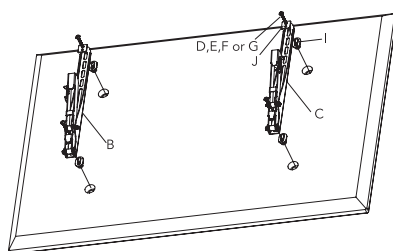

fig. 3
Before installation, the monitor brackets (B and C) must be vertically placed and the distance from the television to the bracket should be as short as possible. Thread the screws (A,B,C or D) through the square pad (G), the monitor brackets (B and C), spacers (F) into the television, and finally tighten the screws firmly with a Philips screwdriver (as shown in fig. 3).